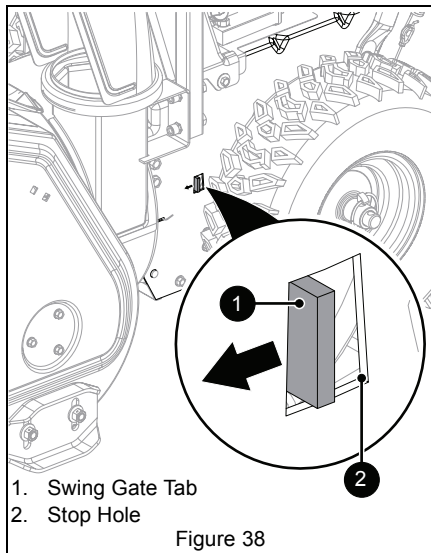

Figure 38
4. With traction clutch disengaged, check that swing gate tab touches the front edge of stop hole. See Figure 38.